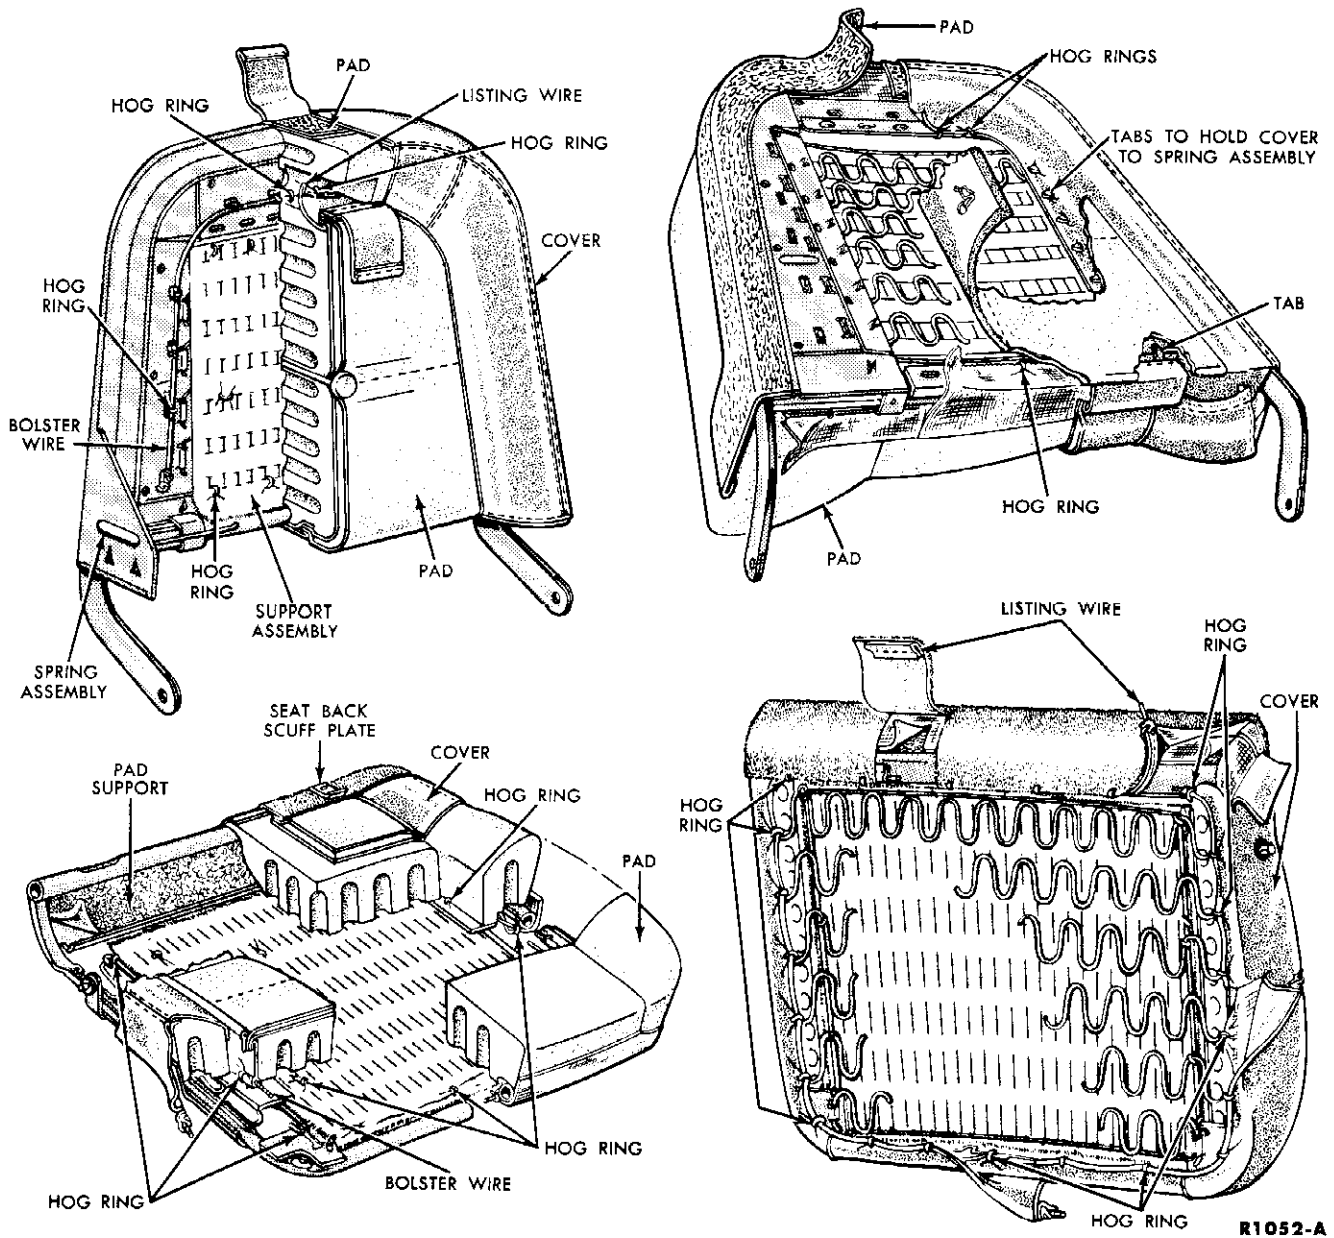

FIG. 3—Front Seat Back and Cushion
When installing a new seat cover or pad, refer to Figs. 3 and 4 for the location of listing wires, hog rings, anti-squeak pads, and seat pad stack-up.
1. Remove the two seat back scuff plates and remove the hog rings retaining the seat cover on the seat frame (Fig. 3). Separate the bottom
1. Remove the two seat back stops and remove the panel cover from the front seat back (Fig. 3). Remove the hog rings from the seat back assembly, bend the tabs up on the seat back, and remove the seat back cover.